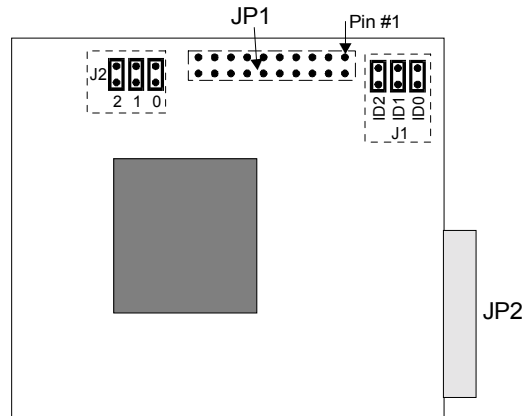

Fig. A-1. On-board connectors and configuration jumpers for *T/SBDIO-16* DCM.
*T/SBDIO-16* DCM (fig.1-1, fig.A-1) meets standard SIOX rev.B daughter-card form-factor. Construction of *T/SBDIO-16* DCM assumes that host *TORNADO* DSP system with *T/SBDIO-16* DCM installed fits into one ISA-bus slot of PC chassis.
The on-board connectors and configuration jumpers are presented at fig.A-1.